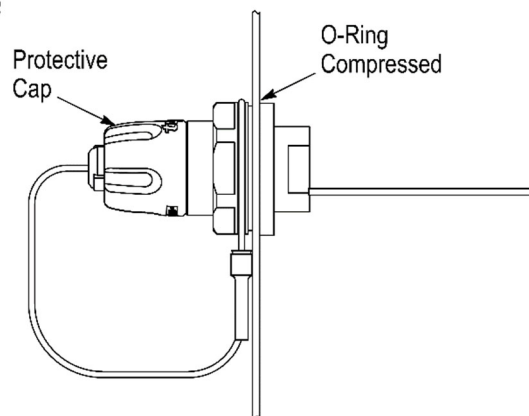

Figure 14
2. Install the connector through the back of the panel so that the O-ring on the shoulder of the D-hole housing is flat against the panel. See Figure 14, Detail A.
3. Thread the panel nut onto the D-hole housing. See Figure 14, Detail A. Tighten the panel nut to a torque of approximately 40 N·m. When the panel nut is secure, the O-ring will be compressed.
4. Thread the protective cap onto the housing, then hand-tighten the protective cap as shown in Figure 14, Detail B.